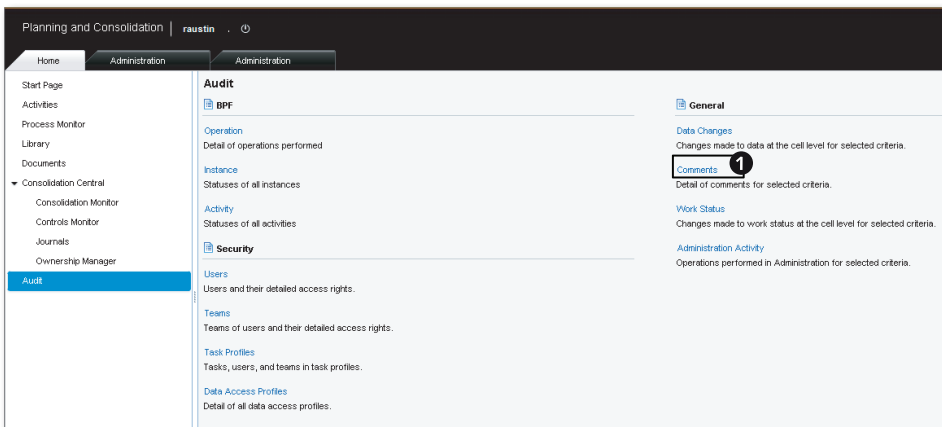

Figure 7.13 Reporting a Comment—Part A
You can also view comments by selecting the **COMMENTS** link from the **AUDIT** view in the **HOME** workspace inside the SAP BPC Web Client. The menu option to run comment reports is located as a link under the **GENERAL** section. Click on the **COMMENTS** link (Figure 7.13, ❶). The option to specify the criteria for retrieving comments opens in a new workspace (Figure 7.14).